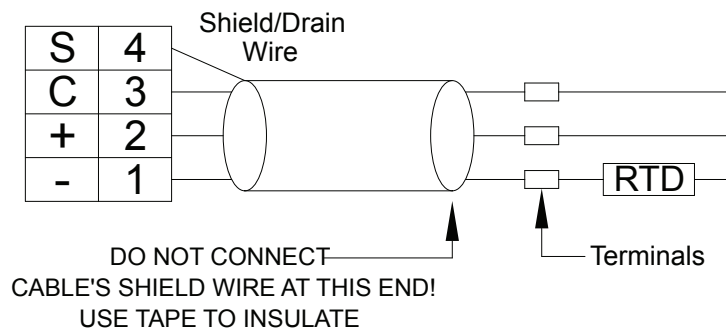

Figure 5. Wiring to URTD
2. Connect three conductors from the RTD to the URTD. (Two return wires must be connected together). Where the device has only two leads from the RTD, connect two of the three conductors together at one of the leads. Make this connection as close to the RTD as possible (see Figure 5). If only two conductors are connected between the RTD and the URTD, the device will not operate correctly.